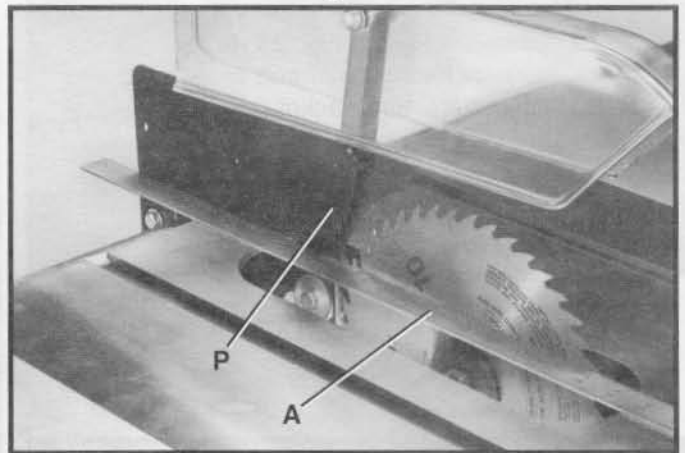
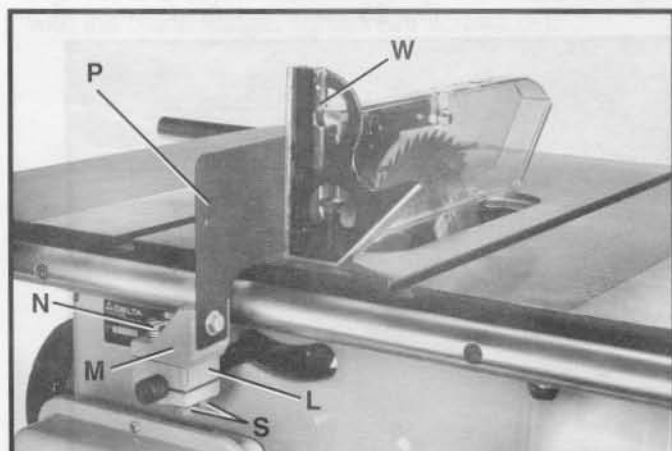

Fig. 27
Fig. 28
12. Using a straight edge (A) Fig. 27, and square (W) Fig. 28, align splitter (P) with the saw blade and table by moving brackets (M) and (L) Fig. 28, until the splitter (P) is in perfect alignment with the blade and square with the table. After alignment is made, tighten hex head screw (N), and two screws (S) Fig. 28.